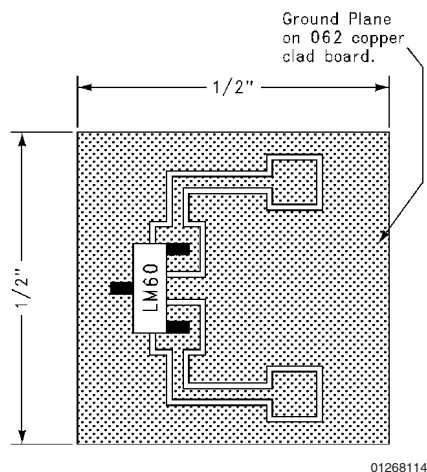

FIGURE 2. Printed Circuit Board Used for Heat Sink to Generate All Curves.
To generate these curves the LM60 was mounted to a printed circuit board as shown in *Figure 2*.
Typical Performance Characteristics To generate these curves the LM60 was mounted to a printed circuit board as shown in *Figure 2*. (Continued)
**-Heat sink used is 1/2" square printed circuit board with 2 oz. foil with part attached as shown in *Figure 2*.